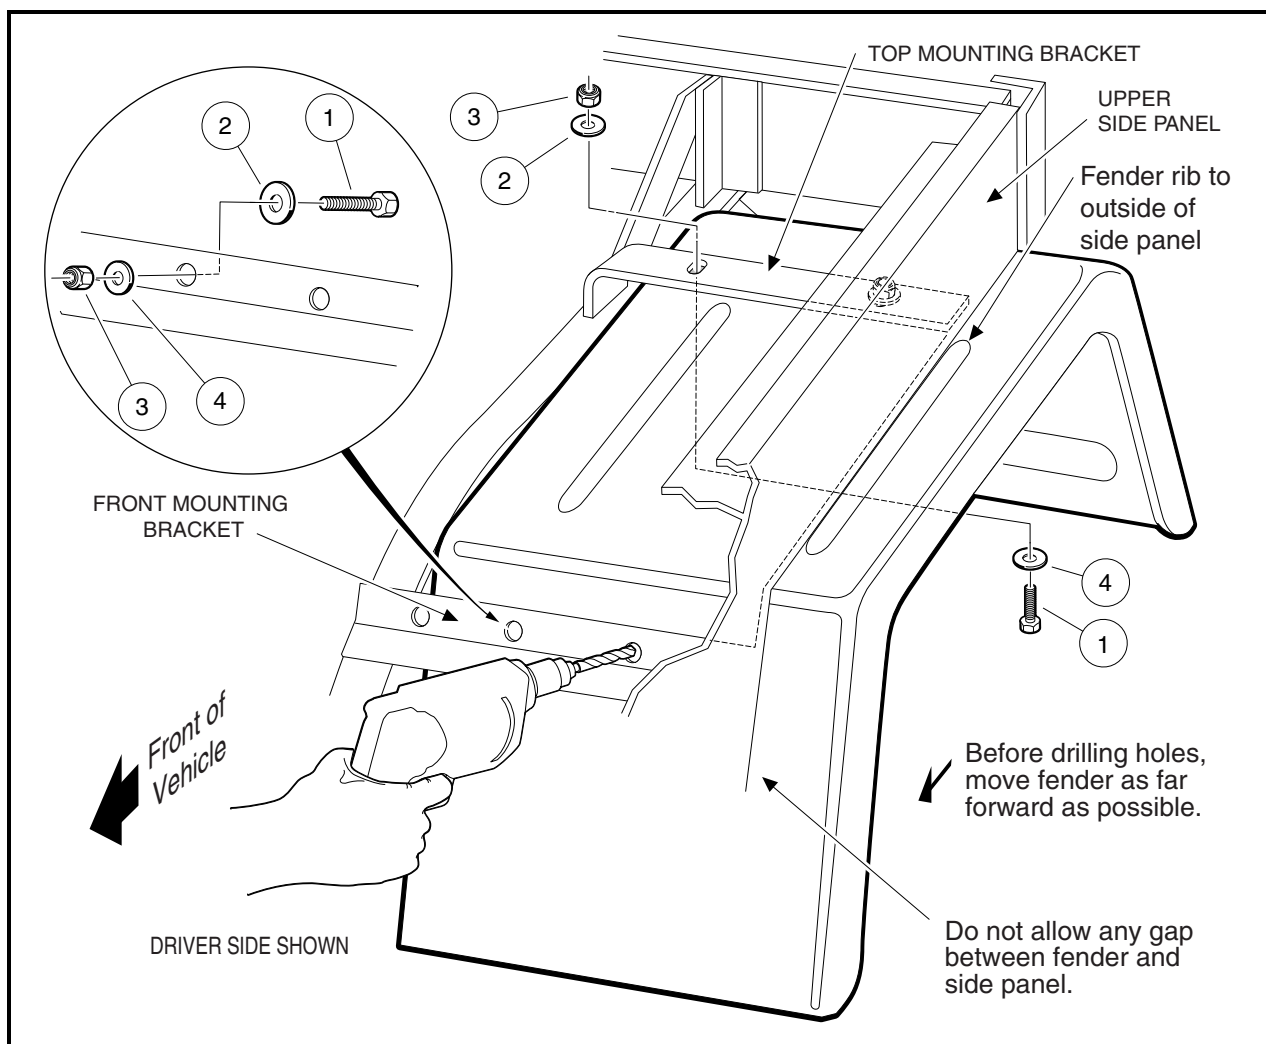

Figure 20 Drill Additional Mounting Holes
4. Make sure fender is correctly aligned in the vehicle by placing the outer fender rib to the outside of the upper side panel, and as far forward as possible, leaving no gap between the fender and side panel (**Figure 20**).
5. Drill three 5/16-inch holes through the fender: Two through the outside holes in the front mounting bracket, and one through the slotted hole in the top mounting bracket (**Figure 20**).
6. Loosely install bolts (1), large flat washers (2), small flat washers (4), and locknuts (3) in the front mounting bracket holes.
7. Install bolt (1), small flat washer (4), large flat washer (2) and locknut (3) in the top mounting bracket hole as shown (**Figure 20**).